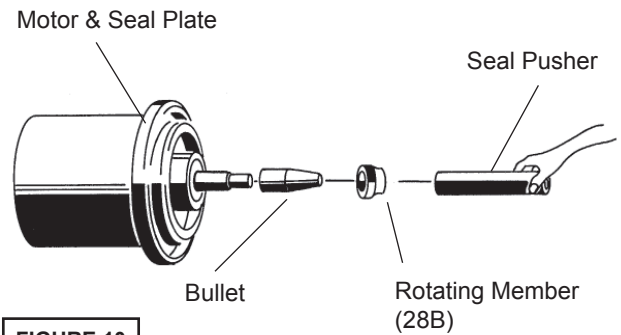

FIGURE 10
Position unit upright, using blocks to avoid resting unit on shaft. Unscrew cord hex bolts (11) and remove compression flange (16a) and power cord (16). Remove snap ring (19) with a flat head screwdriver. Pull the terminal block (21) out of the housing (6) using a T-bolt or a pair of pliers and a .25-20 screw in the threads of the terminal block (21). Be sure to leave slack on the motor leads connected underneath. Use needle nose pliers to pull each female connector off of the pins on the underside of the terminal block (21), see Figure 10. The unit voltage should be noted.